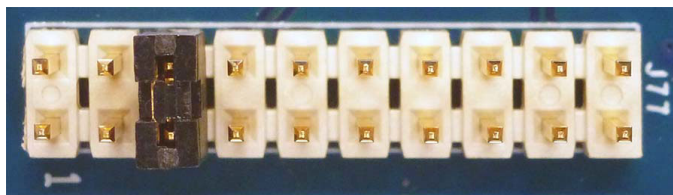

Figure 51.
- (8) PWM_TRI is already connected to VCC on the ISL78224EVAL2Z.
- (9) Jumper J₇₀ Pin 2 to J₇₀ Pin 3 (PGND) to command buck operation.
- (10) Jumper J₈₈ Pin 2 to J₈₈ Pin 1 (VCC) to command continuous conduction mode (CCM) or J₈₈ Pin 2 to J₈₈ Pin 3 (GND) to command diode emulation mode (DE).
- (11) Jumper J₈₉ Pin 2 to J₈₉ Pin 1 (VCC) to command Latch off Fault protection (LAT) or J₈₉ Pin 2 to J₈₉ Pin 3 (GND) to command hiccup fault protection (HIC).
- (12) Remove jumper J₄ to disconnect VIN_FLY from VIN.
- (13) Connect V6 (TP₁₉) to a disabled external 6V source.
- (14) Connect VIN (TP₁₄) and V12 (TP₁₈) to a disabled external 12V source.
- (15) Enable the BAT48, BAT_IN, V6, VIN, and V12 voltage sources.
- (16) Jumper J₅₈ to command enable.
- (17) Enable can be verified by observing the presence of voltages at PVCC, VCC, MCUVDD, and CLK_OUT.
- (18) Jumper J₇₇ Pin 5 to J₇₇ Pin 6 to command PWM_EN, see Figure 51. Avoid bounce to this connection.